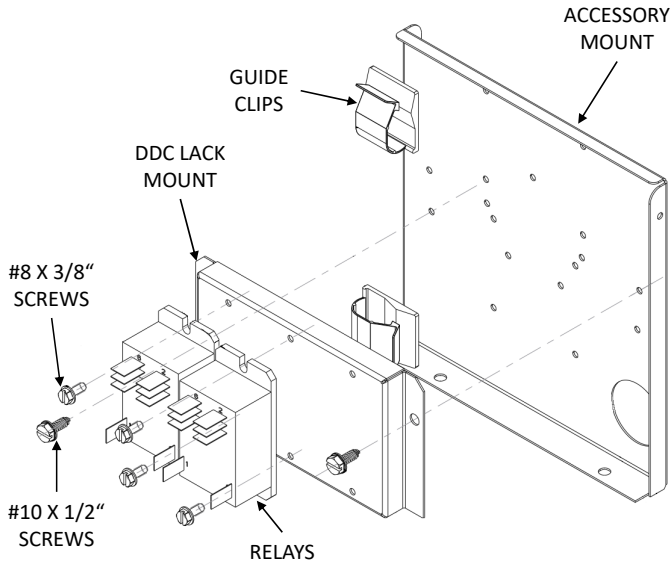

FIGURE 9
4. Attach the relays to the LACK Mount using the #8 X 3/8" screws. See Figure 9.